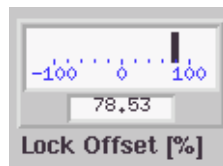

Figure 7-24 A significant AFC needle deflection.
4. **Increase the microwave attenuation slowly.** Increase the attenuation in 1 dB increments between 50 and 60 dB until you observe a significant deflection of the needle. (See Figure 7-24.)